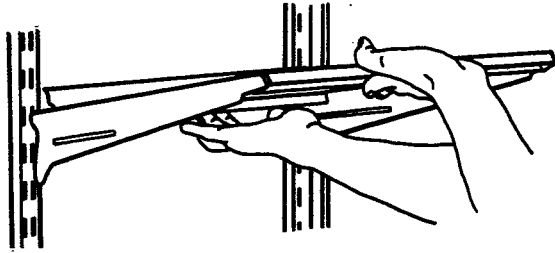

Figure 7.
- To remove "cantilever" shelves, tap upward at back of shelf, near the metal track. See Figure 7. This will loosen shelf hooks. Lift shelf and pull out.